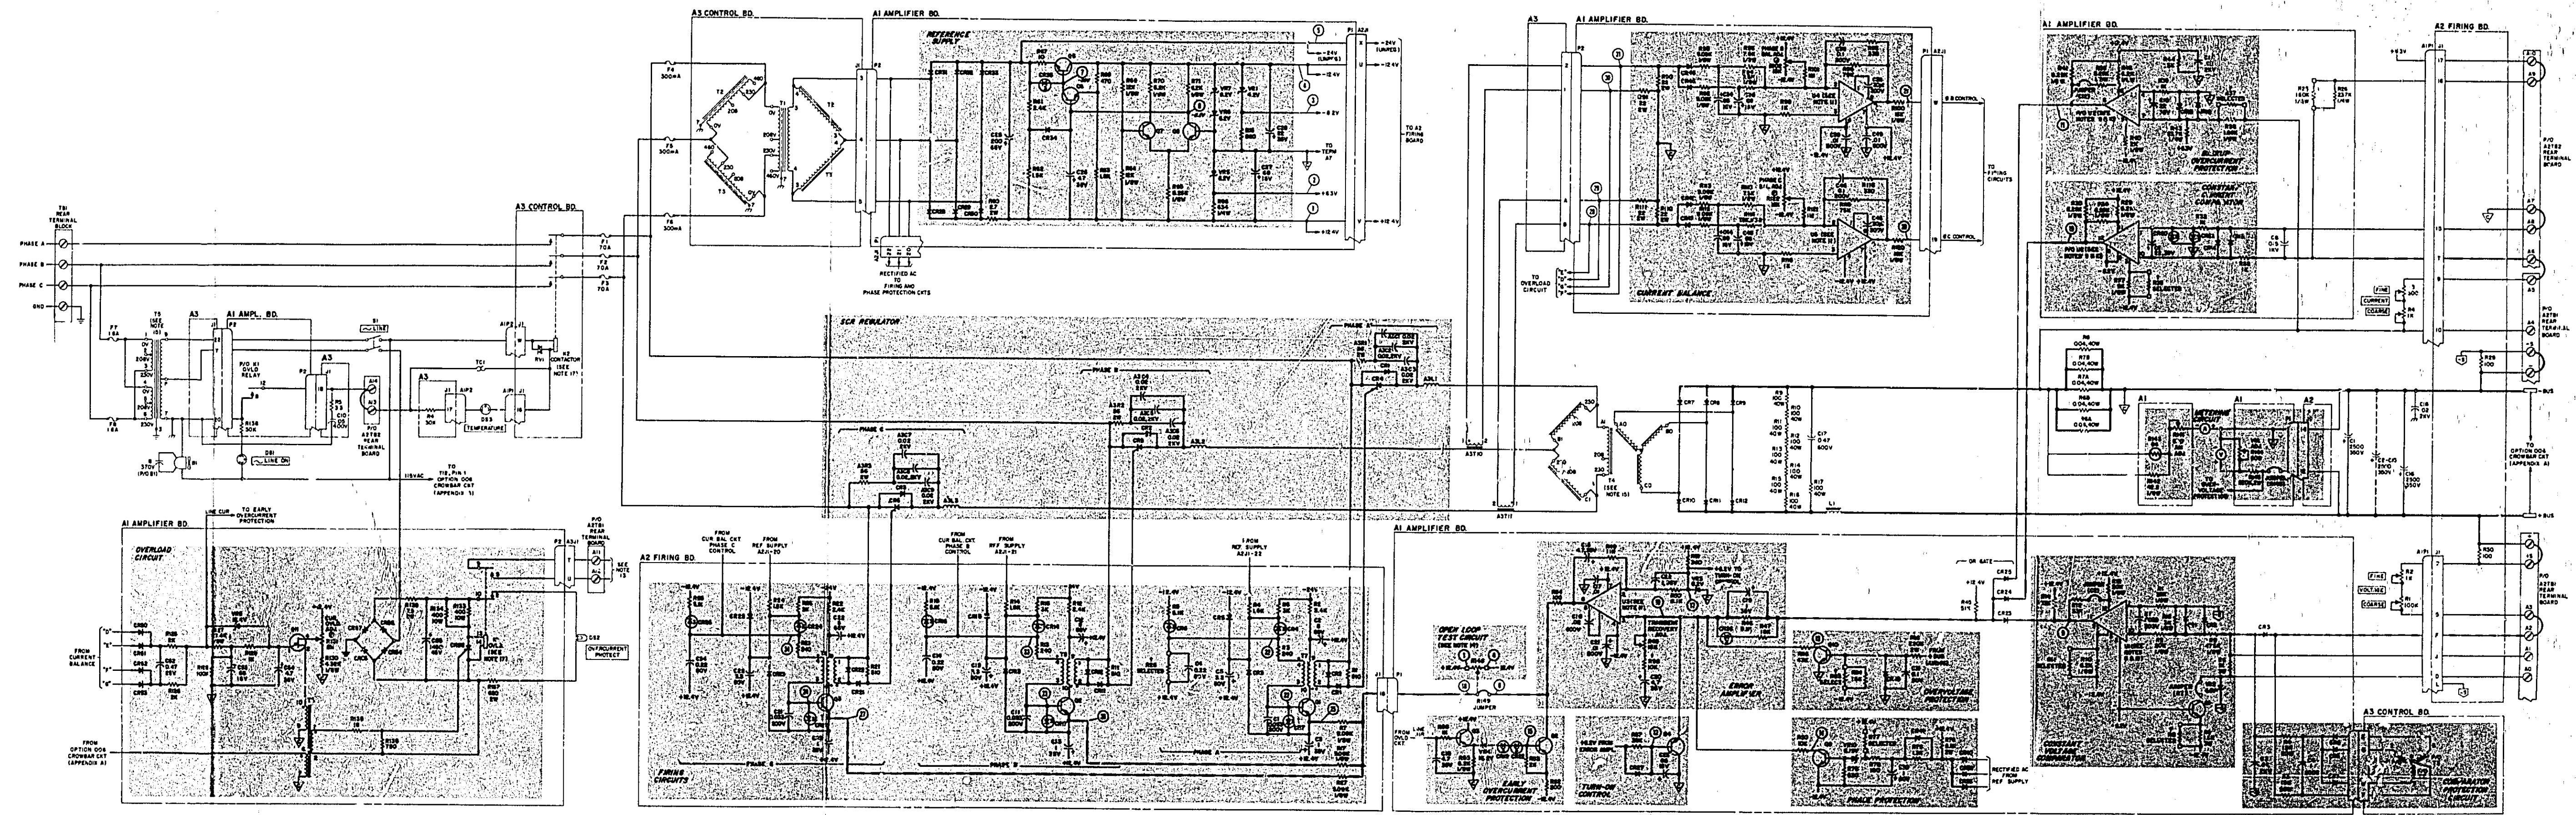

Figure 7-7. Model 6479C, Schematic Diagram
c. Schematic diagram (Figure 7-7), illustrating the circuitry for the entire power supply. Voltages are given adjacent to test points, which are identified by encircled numbers on the schematic.